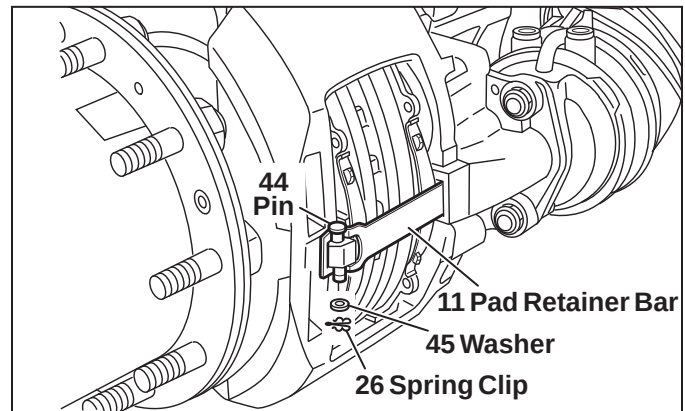

FIGURE 34 - PAD RETAINER BAR REMOVAL
5.2.4 See Figure 34. Remove and discard the pin retention clip (26) and washer (5).
- 5.2.21 Push the new pad retainer bar (11) into the groove of the caliper. Press down on the pad retainer bar, and insert the pad retainer pin (44), with the pin pointing downwards, where possible. Install the supplied washer (45) and then the spring clip (26). (See Figure 34).